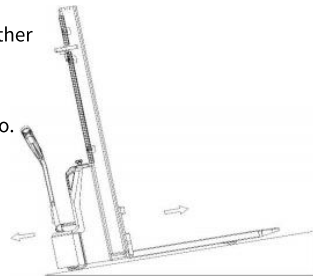

Figure 12: Goods up
- ⚠ Travel on an incline is permitted only when the cargo is facing upwards. As shown in Figure 12, do not exceed the specified technical parameters when traveling on an incline.**